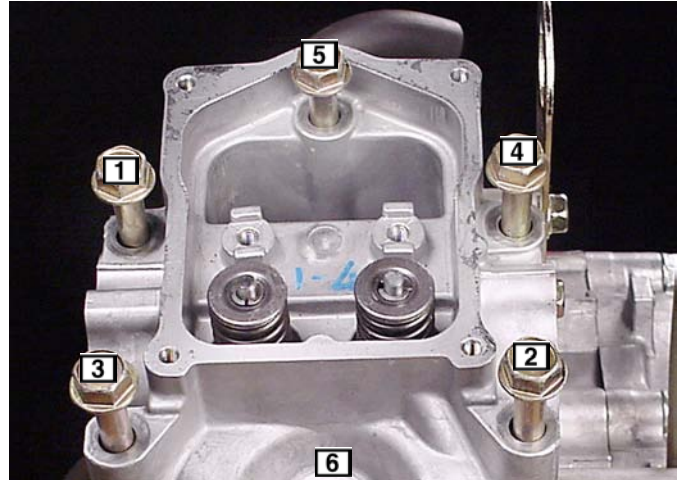

Fig. 152
3. Torque bolts in sequence shown to **30 ft. lbs. (40.0 Nm)**, Fig. 152.